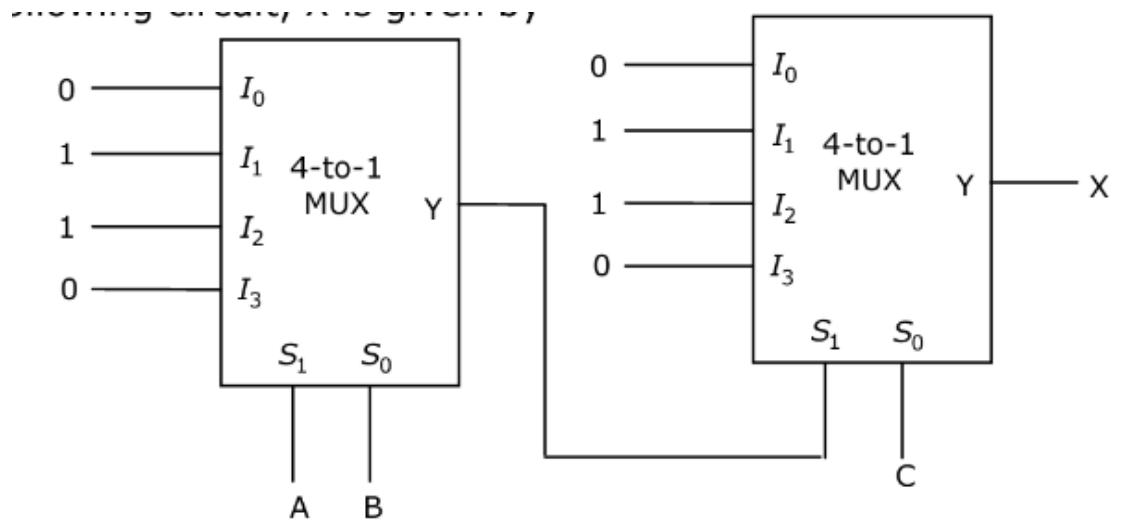

Figure 3.4:
16. Find  $X$  in the following circuit in Fig. 3.4 (GATE EC 2007)